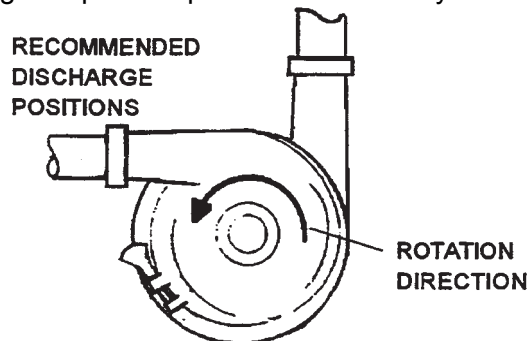

Figure 2
- The pump casing may be rotated with the discharge connection pointing in any direction; the best pump performance will be with the outlet up, to the left, or positions in between. These positions ensure a flooded casing and prevent problems caused by air in the system (see Figure 2).